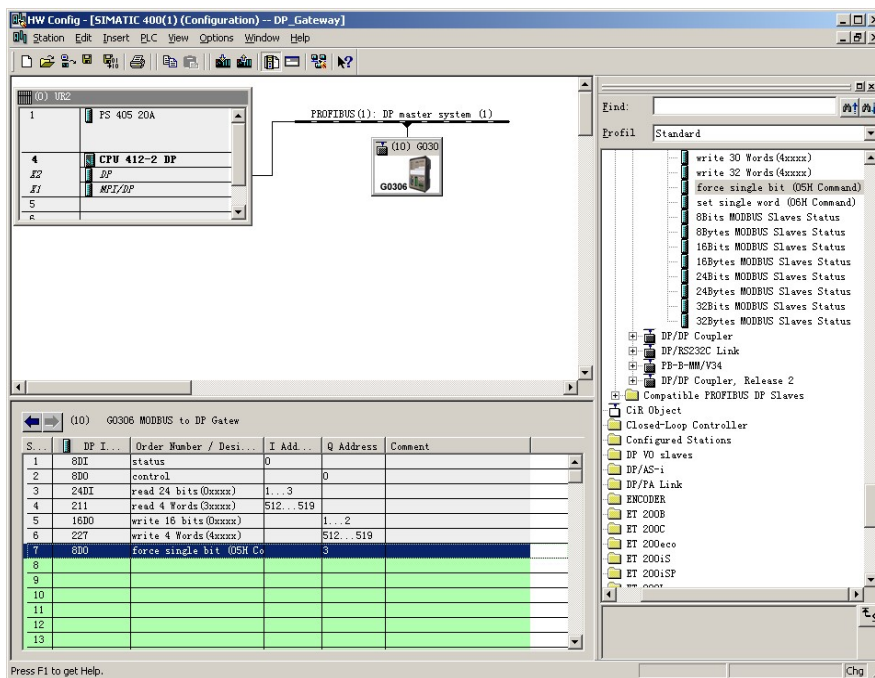

Figure 28 Add “force single bit (05H Command)” module
a) Add “force single bit (05H Command)” module, as shown in Figure 28: